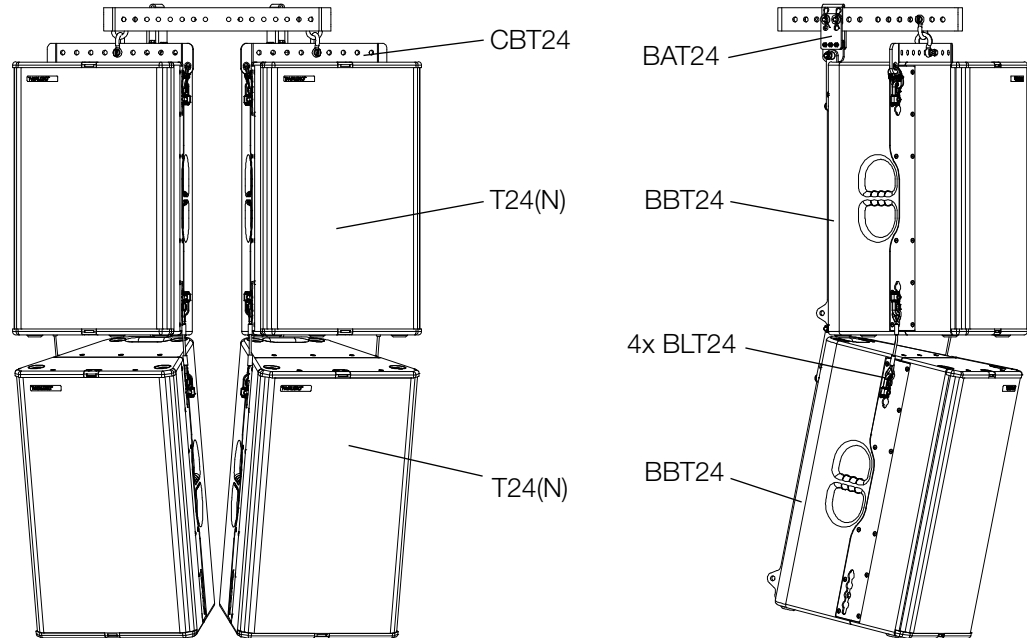

Figure 4.6 - Standard variant
The standard variant has established itself in which four T24(N) loudspeakers are used with two CBT24 cradle bar for flying, four BBT24 brackets, two BAT24 adapter and four BLT24 Boxlink connector cables. (See figure 4.6)